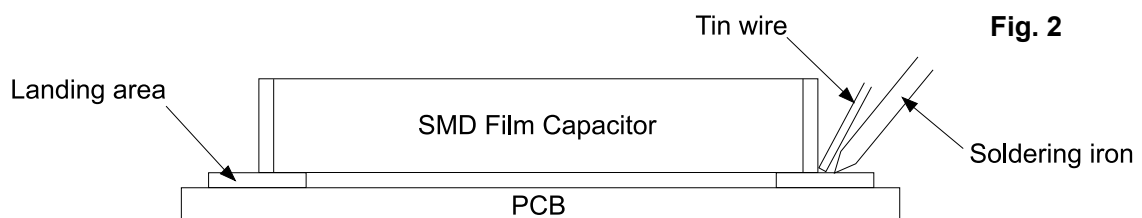

Fig. 2
- never touch the capacitor body with the soldering iron but rather touch the soldering iron and the end termination with the tin wire edge (see Fig. 2);
- if the soldering iron is equipped with a temperature controller device: set the temperature to  $250 \pm 3\text{ }^{\circ}\text{C}$  and proceed as per Fig. 2 (the maximum soldering time, on both terminations, is 5 s);
- 1) proceed as per Fig. 2;